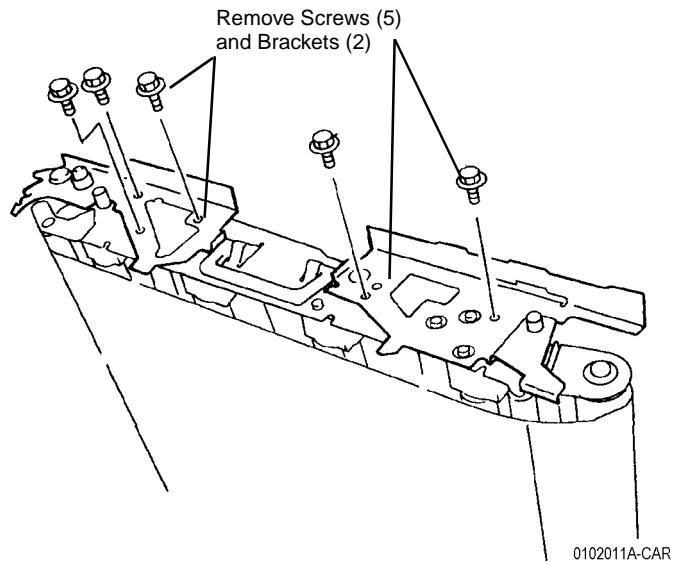

Figure 7 Removing Bracket
10. Remove Brackets (Figure 7).